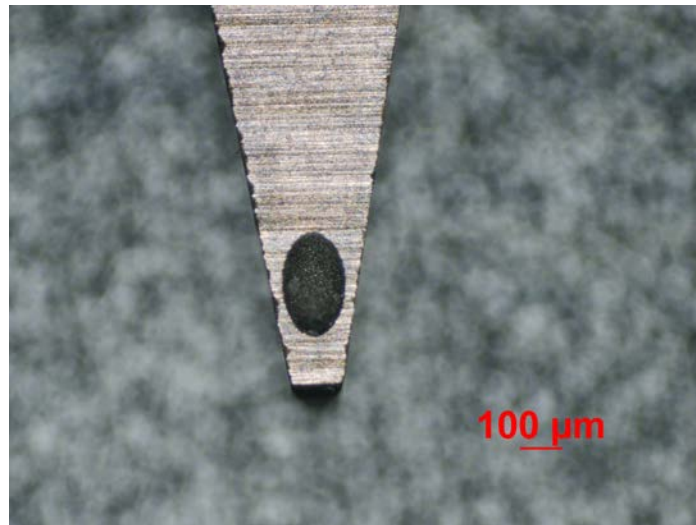

Figure 7: Tip of the bonding tool (backside view).
- 2) Thread the wire through the clam and into the back of the bonding tool. The opening of the bonding tool is located near the tip of the tool. Be sure that the wire is straight. Try to thread the wire at 45°. Figure 6 shows the wire path. Figure 7 shows the tip of the bonding tool.